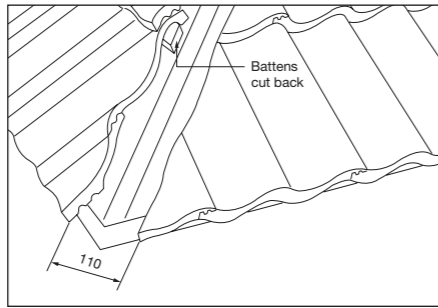

Fig. 1a - If using low profile tiles (depth <85mm) form a gap of 110mm at hip
- 3 If using low profile tiles with depth from rafters to top of tile of <85mm, the battens need to be cut back to the width of 110mm and the hip batten section screwed directly to the roof structure (Fig 1a).